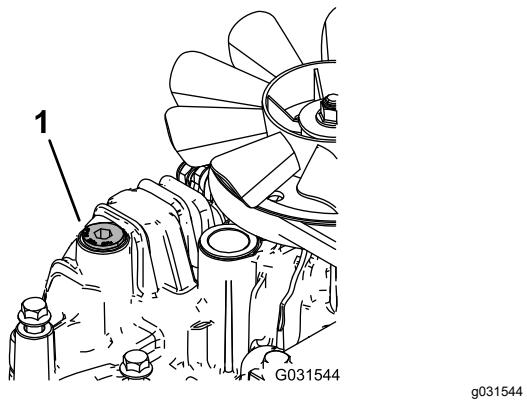

Figure 76
11. Loosen the vent plug in each transmission so that it is loose and wobbles (Figure 76).